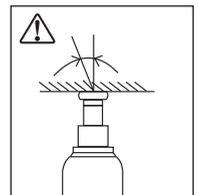

Fig. 3 - Inclined Load
**WARNING** During lifting, the inclined load must not exceed 6 degrees. See Fig. 3.